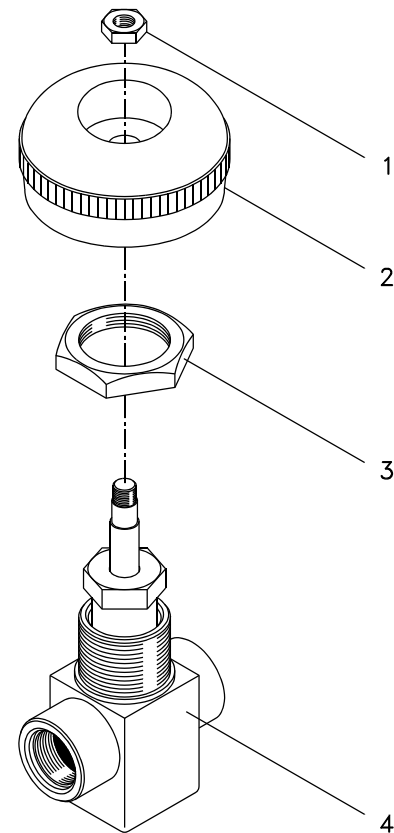
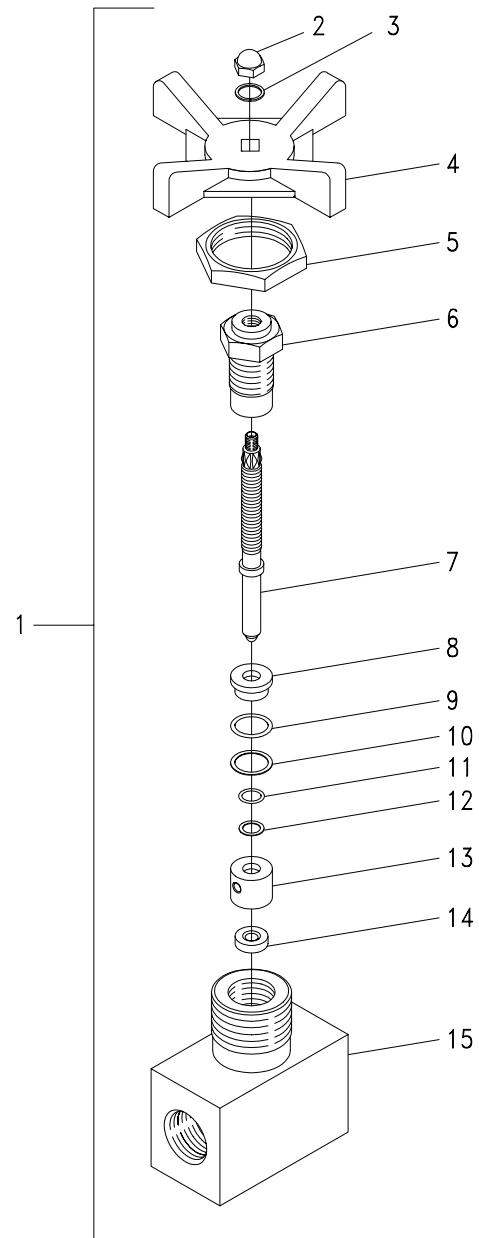
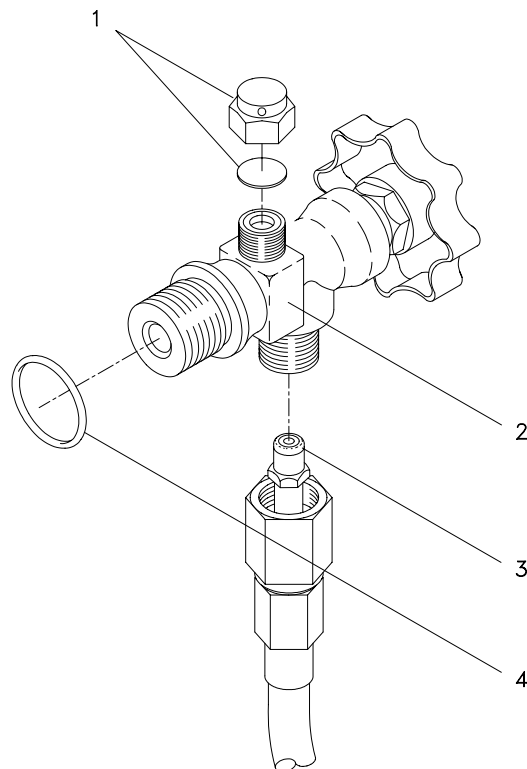

Figure 6-13. Circle Seal HP Isolation Valves (AHP-V501 thru AHP-V504 and AHP-V601)
Figure 6-14. CPV HP Isolation Valves (AHP-V501 thru AHP-V504 and AHP-V601)
Figure 6-15. Flask Shutoff Valves (AHP-V505, AHP-V506, AHP-V507) and Softseat
- (4) Remove bagging from hose or cross fitting. Install new softseat (Figure 6-15, 3) on hose or cross nipple.
Although corrective maintenance of the Circle Seal valves is limited to removal and replacement in this chapter, repair of the valves is also authorized and can be accomplished using the repair kit in Figure 7-29 and instructions from the manufacturer. In the following procedure, note that all four valves must be removed from the panel but only the damaged/defective valve should be replaced. Unless otherwise noted, refer to Figure 6-13 for parts location and to Figure 7-29 for an index of parts.
- (1) Remove flex hose assemblies from adapter fittings on AHP-V501, -V502, and -V504.
- (2) Remove softseats (Figure 6-15, 3) from the three exposed hose nipples and discard. Bag open ends of hoses H-502 and H-505.
- (3) Remove panel mounting screws, washers, and nuts (three sets) from flask rack assembly panel, and remove panel from rack.
- (4) Remove hex nuts (Figure 6-13, 1) from handles (2) of all four valves, and remove handles from valve stems.
- (5) AHP-V503 only: Loosen union nut and disconnect tubing from positionable elbow. Remove, cut, and discard O-ring.
- (6) Remove panel nuts (3) from all four valves, and remove manifold assembly from panel. Retain valve spacers for later use.
- (1) Inspect new valve to ensure that chrome button has been discarded from handle and that valve has been cleaned in accordance with MIL-STD-1330 or another approved NAVSEA cleaning procedure for life support systems.
- (2) Remove hex nut (1), handle (2), and panel nut (3) from new valve.
- (3) Using approved lubricant, lubricate two new O-rings (M83248/2-906) and install one on each side of union connector. Install union connector on manifold end of new valve, and install new valve on manifold assembly.
- (4) Using approved lubricant, lubricate one new O-ring (M83248/2-906). If replacing AHP-V501, AHP-V502, or AHP-V504: Install O-ring on valve end of adapter fitting, and install adapter fitting on valve. If replacing AHP-V503: Install O-ring on valve end of positionable elbow and install elbow on valve.
- (5) Position manifold assembly behind panel with one valve spacer positioned between each valve and panel. Insert valve bodies (4) through panel, and secure with panel nuts (3).
- (6) Place handles (2) on valve stems and secure with hex nuts (1).
- (7) Reinstall panel on flask rack assembly and secure with the three sets of panel mounting screws, washers, and nuts.
- (8) AHP-V503 only: Using approved lubricant, lubricate new O-ring (M83248/2-111) and install in groove on positionable elbow. Connect tubing to elbow and tighten union nut.
- (9) For AHP-V501, AHP-V502, and AHP-V504: Install a new softseat (Figure 6-15, 3) on each of the three hose nipples, and connect flexible hose assemblies to valve adapter fittings. (See Figure 7-14 for softseat ordering information.)
- (10) Pressurize flask rack assembly. Using NID solution prepared in accordance with paragraph 4.7.3.2, check valves and valve connections for leaks and correct as necessary.
- (11) Complete reentry control report and log.
Remove and repair or replace damaged/defective CPV HP isolation valves in accordance with the following procedure. Although all four valves must be removed from the panel for this procedure, only the damaged/defective valve needs to be replaced. Unless otherwise noted, refer to Figure 6-14 for parts location and to Figure 7-28 for an index of parts.
- (1) Remove flex hose assemblies from valve adapter fittings on AHP-V501, AHP-V502, and AHP-V504.
- (3) Remove panel mounting screws, washers, and nuts (three sets) from flask rack assembly panel; remove panel from rack.
- (4) Remove acorn nuts (Figure 6-14, 2), lock washers (3), and handles (4) from all four valves.
- (6) Remove panel nuts (5) from all four valves, and remove manifold assembly from panel. Retain valve spacers for later use.
- (7) Remove valve and union connector from manifold assembly. Remove, cut, and discard O-ring.
- (4) Position manifold assembly behind panel with one valve spacer positioned between each valve and panel. Insert valve bodies (15) through panel, and secure with panel nuts (5).
- (5) Install handles (4), lock washers (3), and acorn nuts (2) on all four valves.
- (6) Reinstall panel on flask rack assembly and secure with the three sets of panel mounting screws, washers, and nuts.
- (7) AHP-V503 only: Using approved lubricant, lubricate new O-ring (M83248/2-111) and install in groove on positionable elbow. Connect tubing to elbow and tighten union nut.
- (8) For AHP-V501, AHP-V502, and AHP-V504: Install a new softseat (Figure 6-15, 3) on each of the three hose nipples, and connect flexible hose assemblies to valve adapter fittings. (See Figure 7-14 for softseat ordering information.)